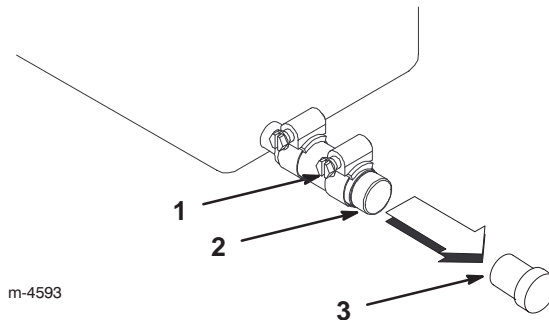

Figure 26
4. Place a pan under the oil drain tube (Fig. 26).
5. Loosen the clamp and remove the plug (Fig. 26).